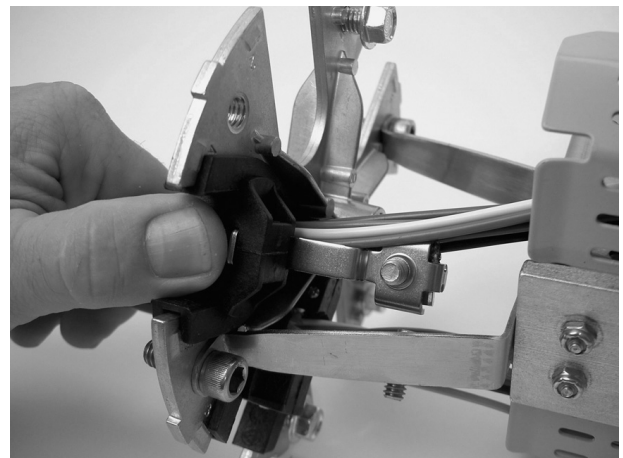

Figure 4
6. Slide cable strain relief assembly into the appropriate metal slot of the closure until it locks in place. (Figure 4)